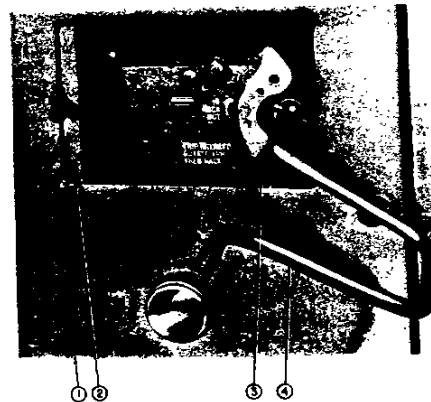

Fig. 4 — Method of Racking Circuit Breaker
2. Engage racking crank (4, Figure 4) and push racking unlocking lever (3) to left, then rotate racking crank counterclockwise only until resistance to
5. To rack circuit breaker to "TEST" position, push racking unlocking lever (3, Figure 4) to left, rotate racking crank approximately 1/4 turn clockwise, then release unlocking lever. Continue cranking until racking mechanism automatically stops at "TEST" position.
FOR SAFETY: When racking circuit breaker to "CONNECTED" position, close compartment door (1, Figure 4) and insert racking crank (4, Figure 4) through sliding panel (2, Figure 4).
Section 4. CIRCUIT BREAKER REMOVAL (See Figure 4)